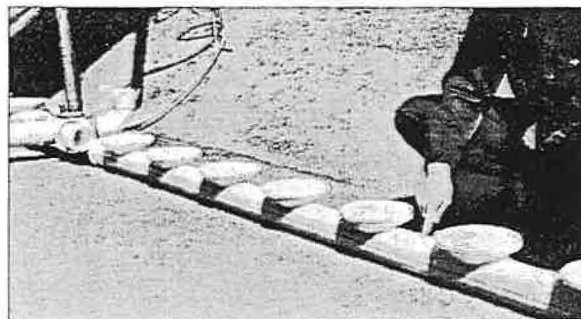

Figure 22
- Once the first air distributor section is assembled, lay it next to the anchor bolt layout previously done and check for interference between the diffuser holders, joints and supports (see Figure 22). Support locations can be adjusted as required as long as the maximum support spacing is held to 7'-6" (2286 mm).